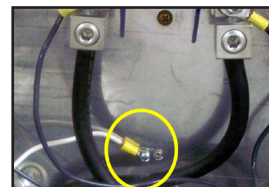

Figure 2
- A. Attach the neutral to the meter can with self-tapping screw (Figure 2)